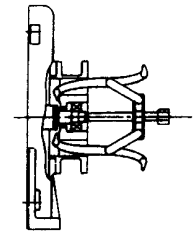

Fig. 15
- (1) Remove belt (38), and remove blower pulley (35). (See "12. Instruction for belt tension Adjusting and/or belt Replacing")
- (2) Remove the bare blower from the base. Stand the blower on a stand with the inlet side up. (Be careful not to tip over the blower during the work.)
- (3) Remove bearing cover (18) and packing (17).
- (4) Remove bearing nut (16) and bearing washer (15).
- (5) Remove the screw holding bearing box (inlet side) (12), pull out both bearing (14) and bearing box (inlet side) (12) together. (Fig.15)
- (6) Pull off bearing (14) from bearing box (inlet side) (12). (Tapping bearing (14) with a hammer-handle from backside will help for easy removal.)
- (7) Remove fan case fastening bolts (39), and remove fan case (C) (3).
- (8) Remove fan stopper nut (11), fan stopper washer (10), end collar (9) and wave washer (8).
- (9) Remove fan (4), deflector (5), fan case (B) (2) through the last fan in this order.